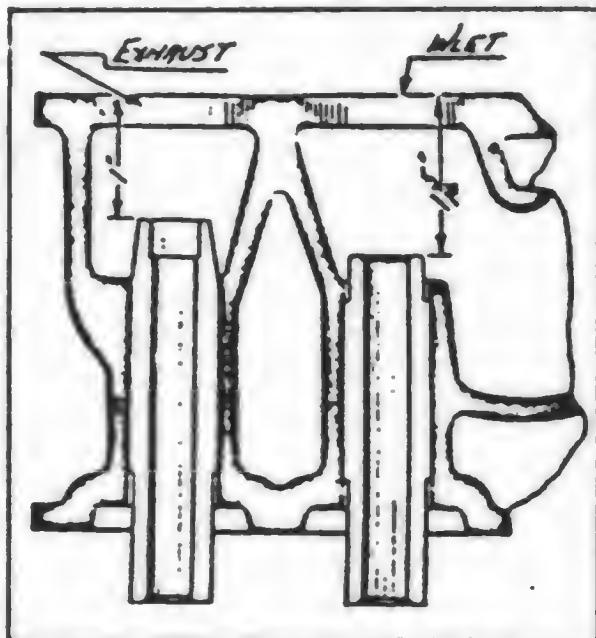

FIG. 21 POSITION OF VALVE GUIDES
(3) The exhaust valve guide is installed in the cylinder block so that there will be a distance of 1" from the top of the guide to the top of the block. The intake valve guide is set at  $1\frac{1}{8}$ " from the top of the valve guide to the top of the block, (Fig. 21).
(4) The valve tappet clearance in the guide should be .0005" to .002". It is advisable to check the clearance of the valve tappet by moving it back and forth in the guide. If the clearance seems to be excessive, it might be necessary to install a new valve tappet. This operation is covered in this section under paragraph 29.